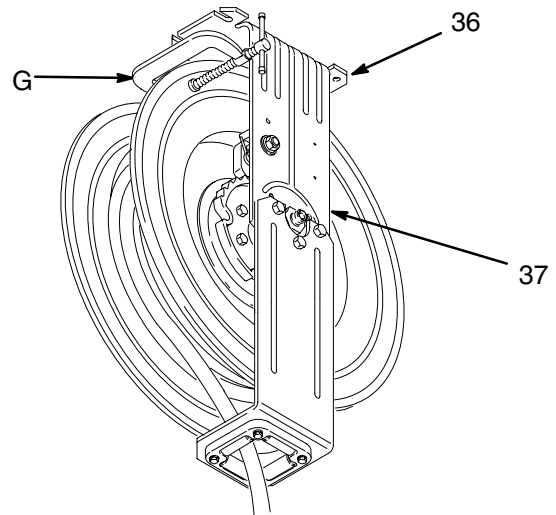

Fig. 12
3. Attach a C-clamp (G) to the reel flange to help prevent the reel from unintentionally becoming unlatched and spinning freely. See Fig. 12.